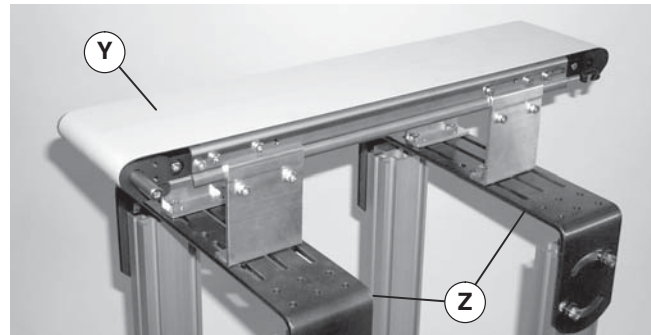

Figure 10
- Position conveyor (Figure 10, item Y) on stands (Z).